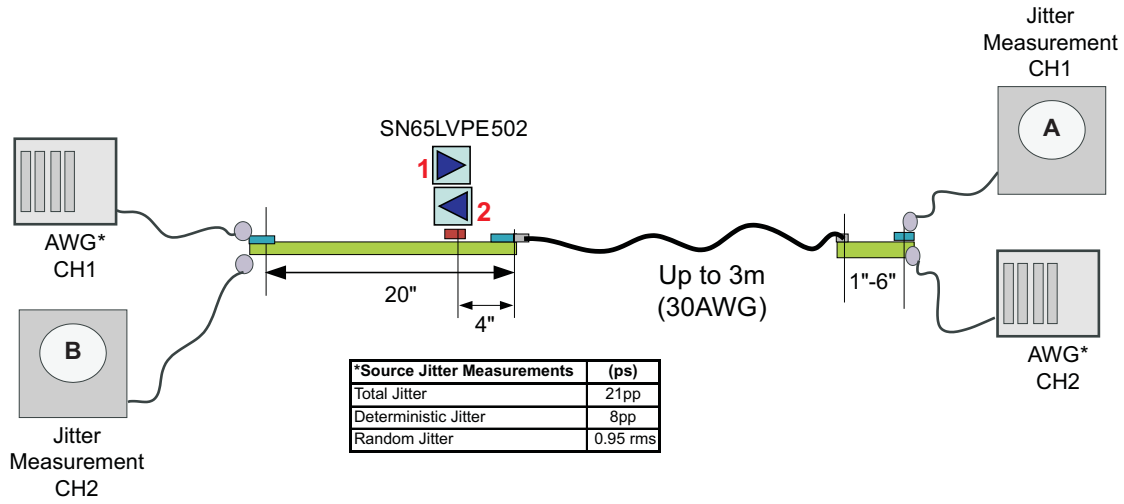

Figure 8. Jitter Measurement Setup
(1) Includes Rj at 10⁻¹²
(2) Measured at the end of reference channel in Figure 8 with K28.5 pattern, V_{ID}=1000mVpp, 5Gbps, -3.5dB DE from source.
(3) UI = 200ps
(4) Rj calculated as 14.069 times the RMS random jitter for 10⁻¹² BER